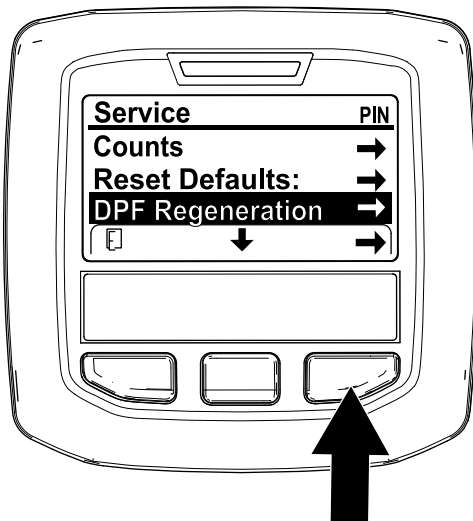

Figure 40
1. Access the Service menu, press the center button to scroll down to the DPF REGENERATION option (Figure 40).
2. Press the right button to select the DPF Regeneration entry (Figure 40).